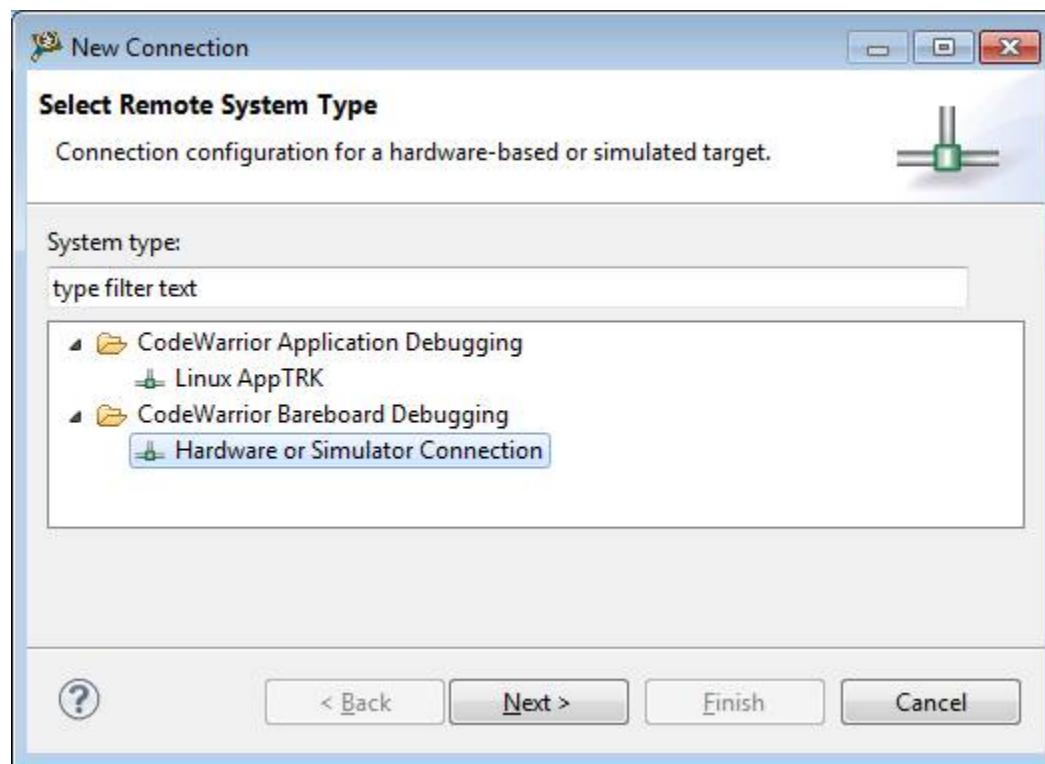

Figure A-3. Setting CodeWarrior Remote System Type
4. Select Hardware or Simulator Connection, and Click Next. See Figure A-3